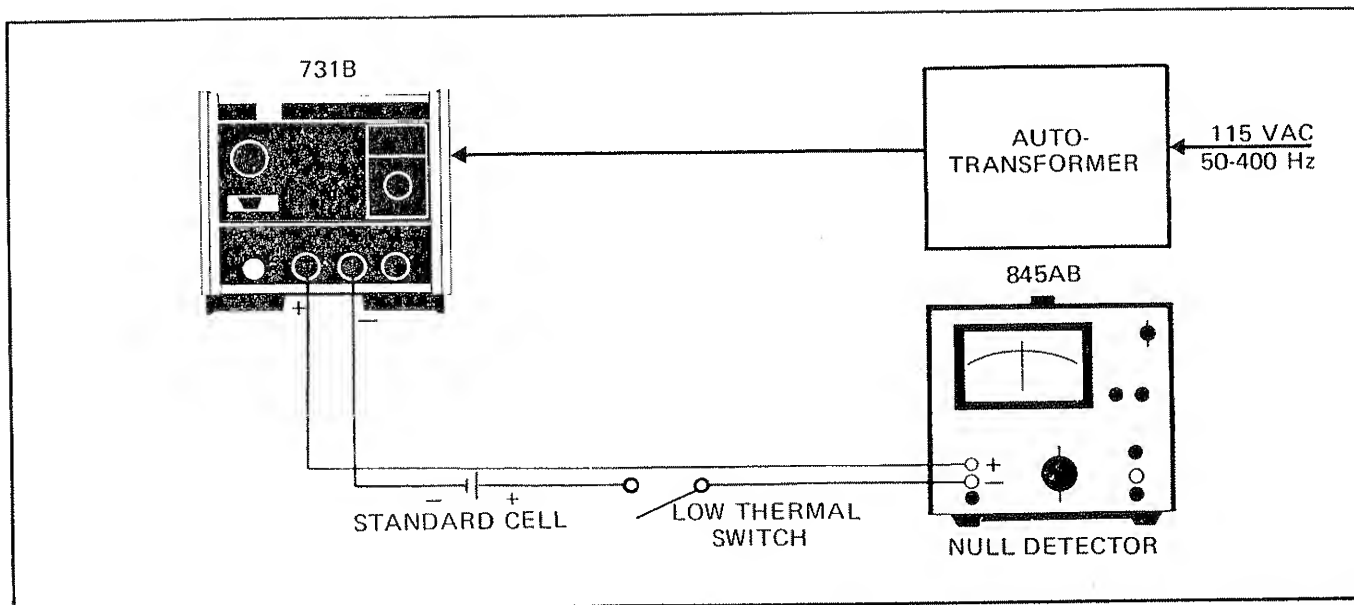

Figure 4-2. EQUIPMENT CONNECTIONS FOR LINE REGULATION, DC TO 1Hz OUTPUT NOISE, AND TRANSFER ACCURACY TESTS.
- a. Connect equipment as shown in Figure 4-2.